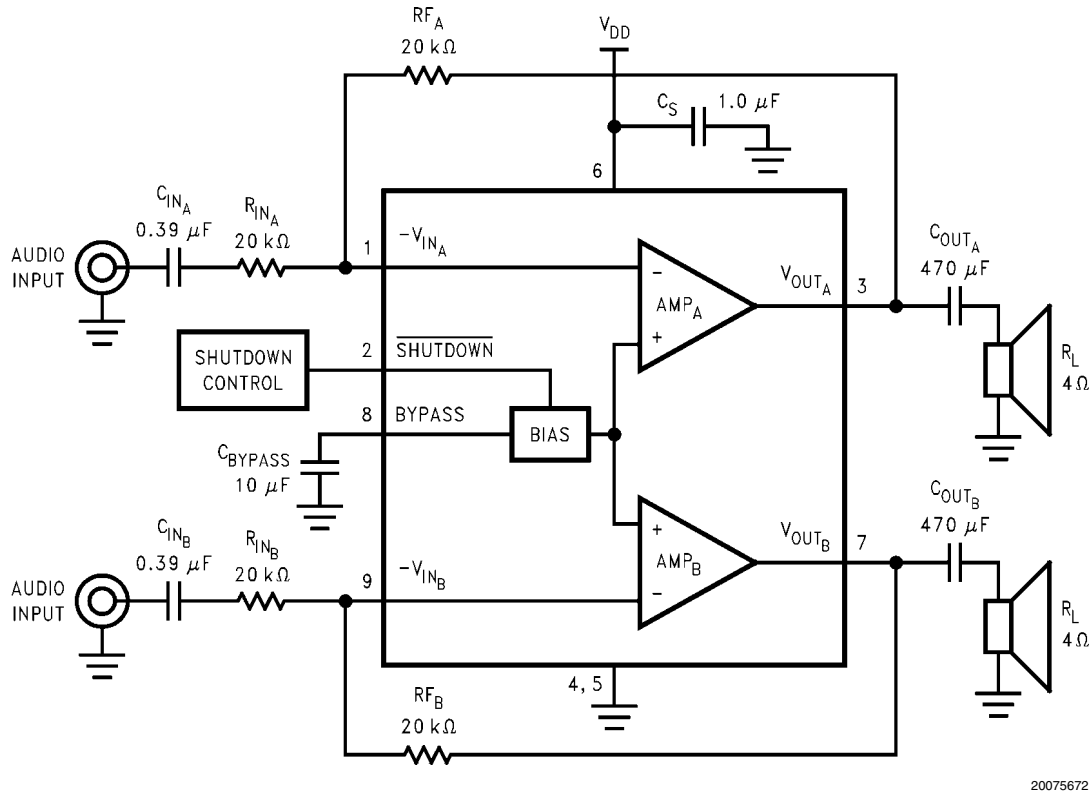

FIGURE 3. Typical LM4940 Stereo Amplifier Application Circuit
As shown in Figure 3, the input resistor ( $R_{\text{IN}}$ ) and the input capacitor ( $C_{\text{IN}}$ ) produce a high pass filter cutoff frequency that is found using Equation (7).
As an example when using a speaker with a low frequency limit of  $50\text{Hz}$ ,  $C_i$ , using Equation (7) is  $0.159\mu\text{F}$ . The  $0.39\mu\text{F}$   $C_{\text{INA}}$  shown in Figure 3 allows the LM4940 to drive high efficiency, full range speaker whose response extends below  $30\text{Hz}$ .